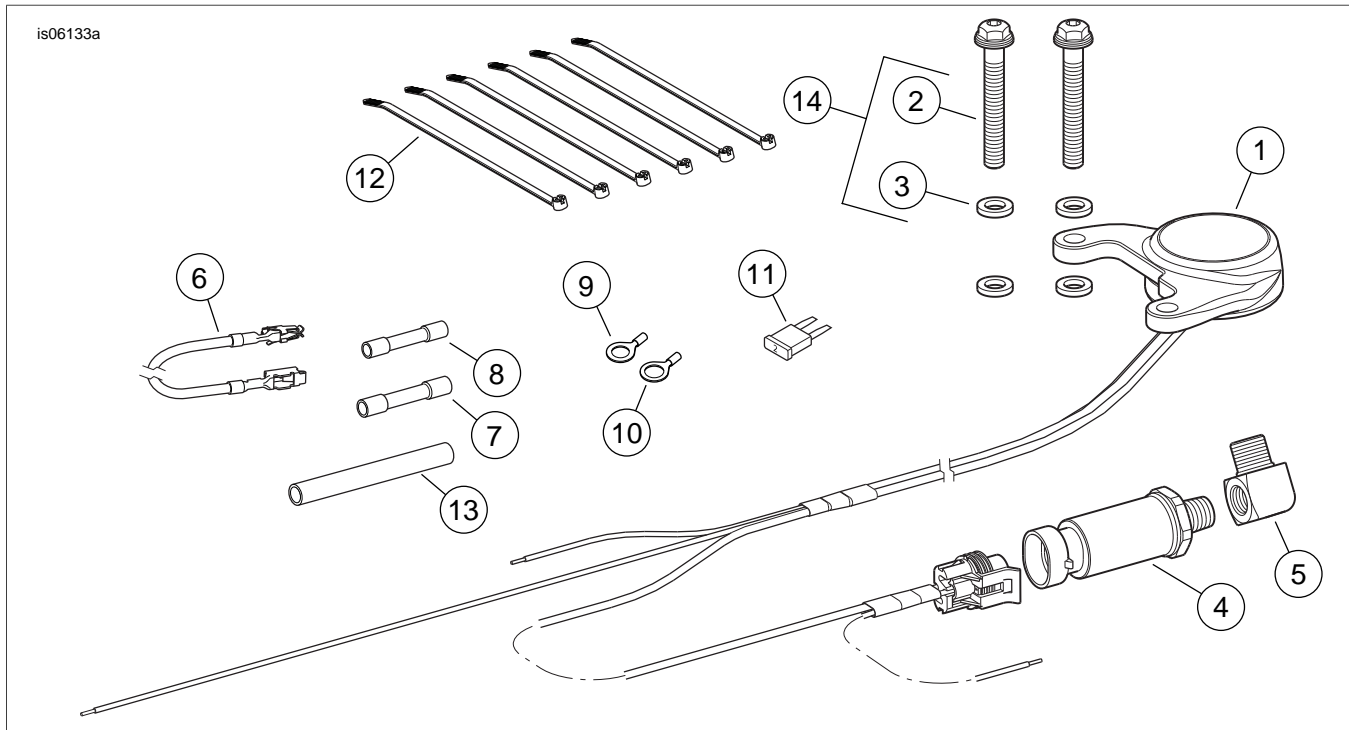

Figure 5. Service Parts, Digital Oil Pressure Gauge
1. Cut the original equipment (OE) oil pressure switch connector (circuit [120] or [139], depending on model and year) from the green/yellow wire on the vehicle harness.
2. See Figure 5. Slide the shrink tube (13) onto the wire. Using the **red** sealed splice connector (8), splice the green/yellow wire from the **new** oil pressure sender connector to the green/yellow wire on the vehicle harness.
4. Cut the excess length from the orange/white wire on the **digital oil pressure gauge harness** to within easy reach of the orange/white adapter wire installed in Step 3. Refer to the warning before **Wire Harness Routing, Step 3**, and the service manual. Using the **blue** sealed splice connector (7) from the kit, splice the orange/white wire from the digital oil pressure gauge harness to the orange/white adapter wire.
5. See Figure 5. Install the 2A fuse (11) from the kit into the OPEN fuse cavity to complete the circuit.
6. See Figure 5. Install the 2A fuse (11) from the kit into the P&A IGN fuse cavity to complete the circuit.
7. See Figure 5. Install the 2A fuse (11) from the kit into the P&A IGN fuse cavity to complete the circuit.
4. See Figure 5, the warning under **Harness Connection**, and the service manual. Using the **blue** sealed splice connector (7) from the kit, splice the orange/white wire together with the orange/white wires cut in Step 2.